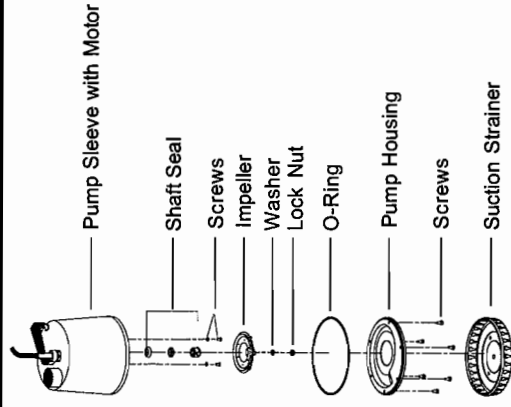

Fig. 2 AP 12
3. **AP 12** — (Refer to Fig.2 Pg.7) Carefully loosen the strainer by inserting a screwdriver through one of the holes of the strainer and press it downwards (towards bottom). Repeat the procedure until the strainer is free and can be removed.
6. **AP 12** — (Refer to Fig.2) Unscrew the six screws close to the edge of the pump sleeve and lift the pump housing out of the pump sleeve. Clean the pump housing, the pump, and the impeller. Check to make sure the impeller can rotate freely. If not: